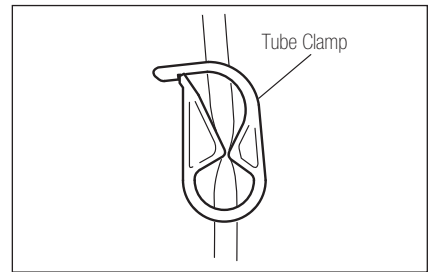

Fig. 12
- 1) Close the Tube Clamp, between the Irrigation Tube Needle and the Irrigation Pump, as shown in Fig.12.